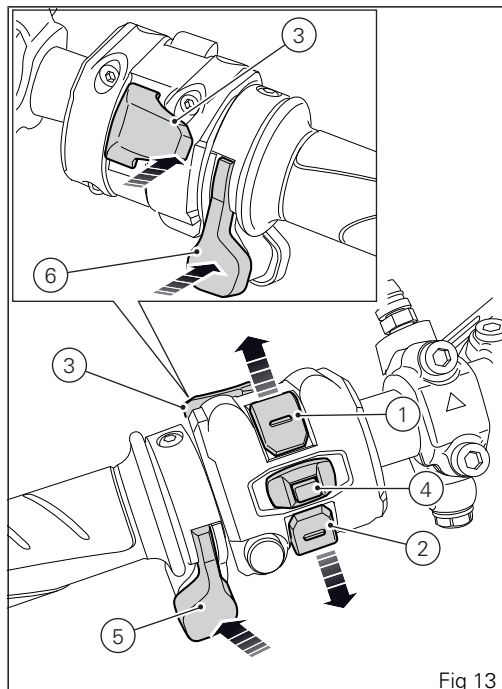

Fig 13
5) "UP" QUICK SELECTION BUTTON (5, Fig 13)
6) "DOWN" QUICK SELECTION BUTTON (6, Fig 13)